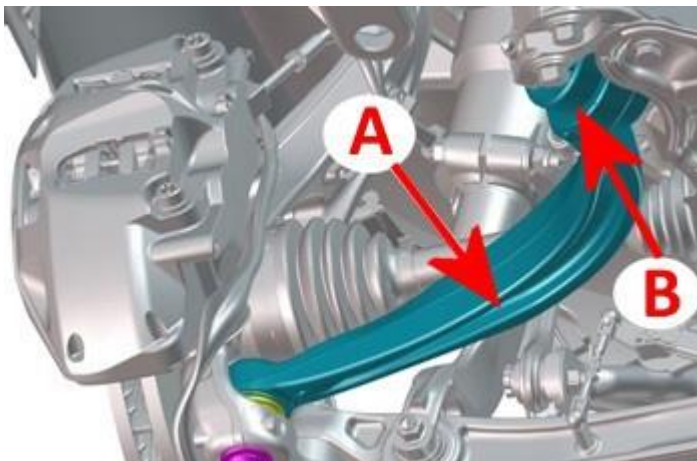

Figure 1
Figure 1 shows for example the left hand front rearmost lower suspension lever (A) the hydraulic mount which must be changed is located at (B)